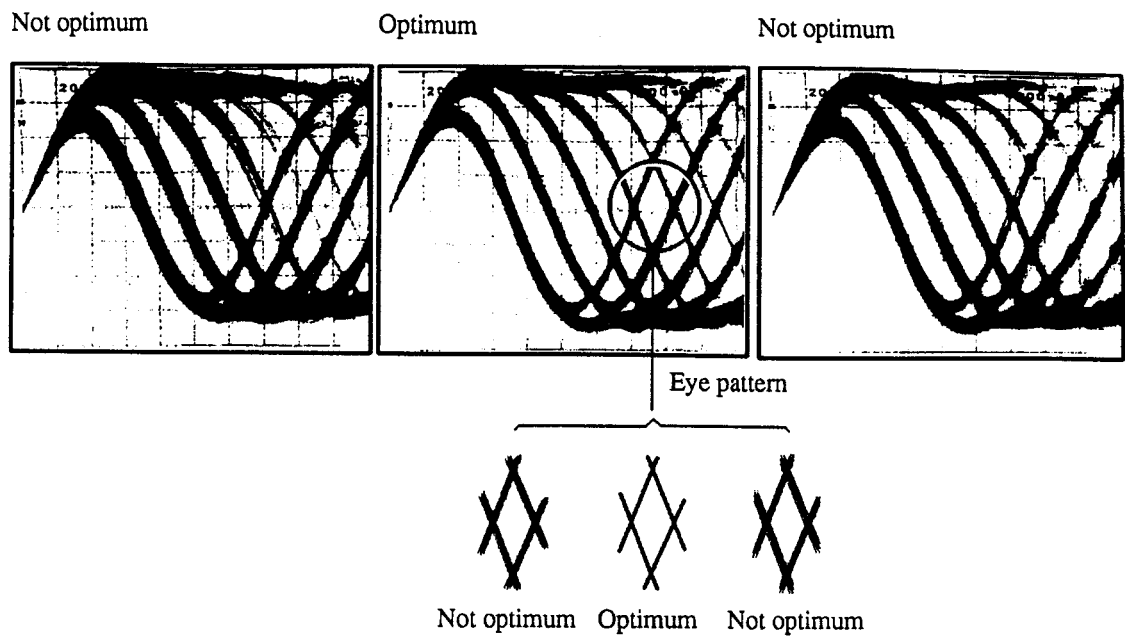

Fig. 5 Eye pattern
3. Then, adjust the tangential inclination adjustment screw with a hex wrench (M 3 mm) until the sharpest possible eye pattern is obtained. (Fig. 5)